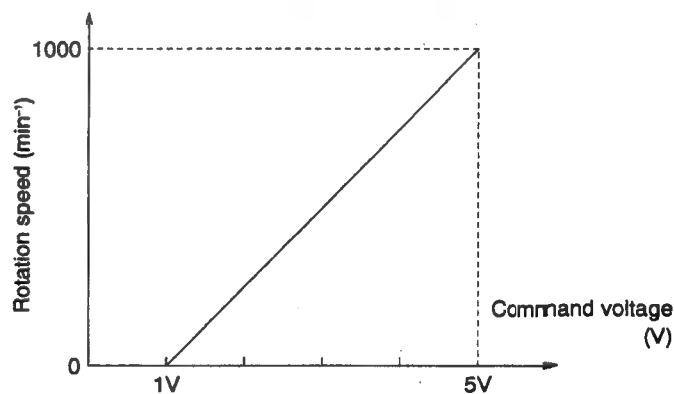

Fig. 12-2
- Fig. 12-2 shows the relationship between the command voltage and rotation speed.